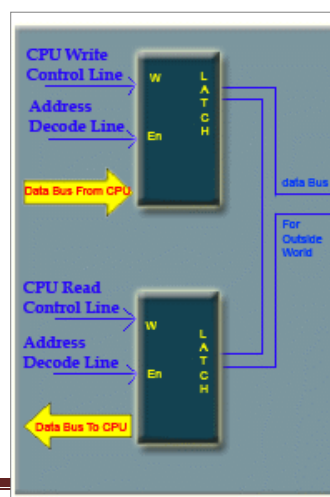

Fig3.3:Read/Write Port
- The read/write or input/output port is shown in the Figure3.3.
A read only (input) port is simply the lower half of the Figure 3.3.